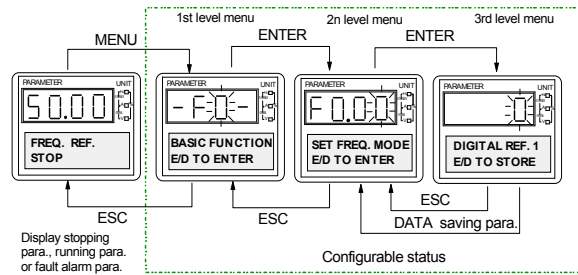
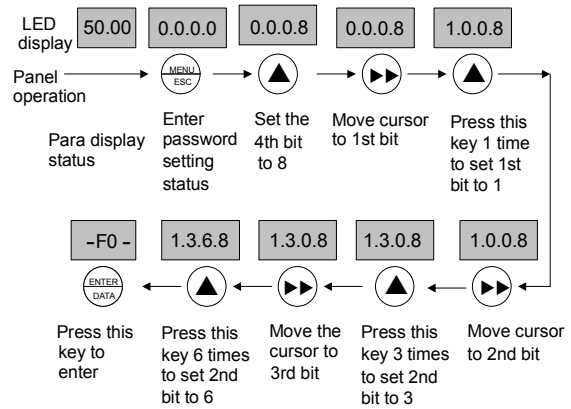

Fig. 4-6 Configuring status
Fig. 4-13 User's password verification
When the drive is in stopping, operating or alarming status, pressing **MENU/ESC** can enter configuring status (Refer to explanations of FP.00 and Fig. 4-13, if user's password is available). Configuring status can be displayed in 3-level menu as shown in Fig. 4-6, and the displaying sequence is: Group of parameter → Parameter → Parameter value. The user can enter these 3 levels by pressing **ENTER/DATA**. In parameter displaying status, press **ENTER/DATA** to save the parameter settings, and press **MENU/ESC** to exit.
**User's password verification:**(Suppose FP.00(user's password) is "1368". The boldfaced digits in Fig. 4-13 means the flashing bits.)